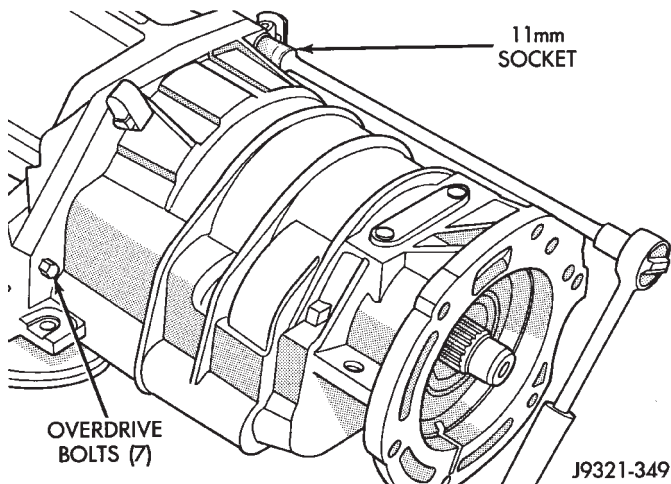

Fig. 123 Removing/Installing Overdrive Unit Attaching Bolts
(6) Place transmission in upright position (Fig. 123).
(7) Remove bolts attaching overdrive unit to transmission case (Fig. 123). An 11 mm socket is required. Note position of all wiring clips and bolts for installation reference.